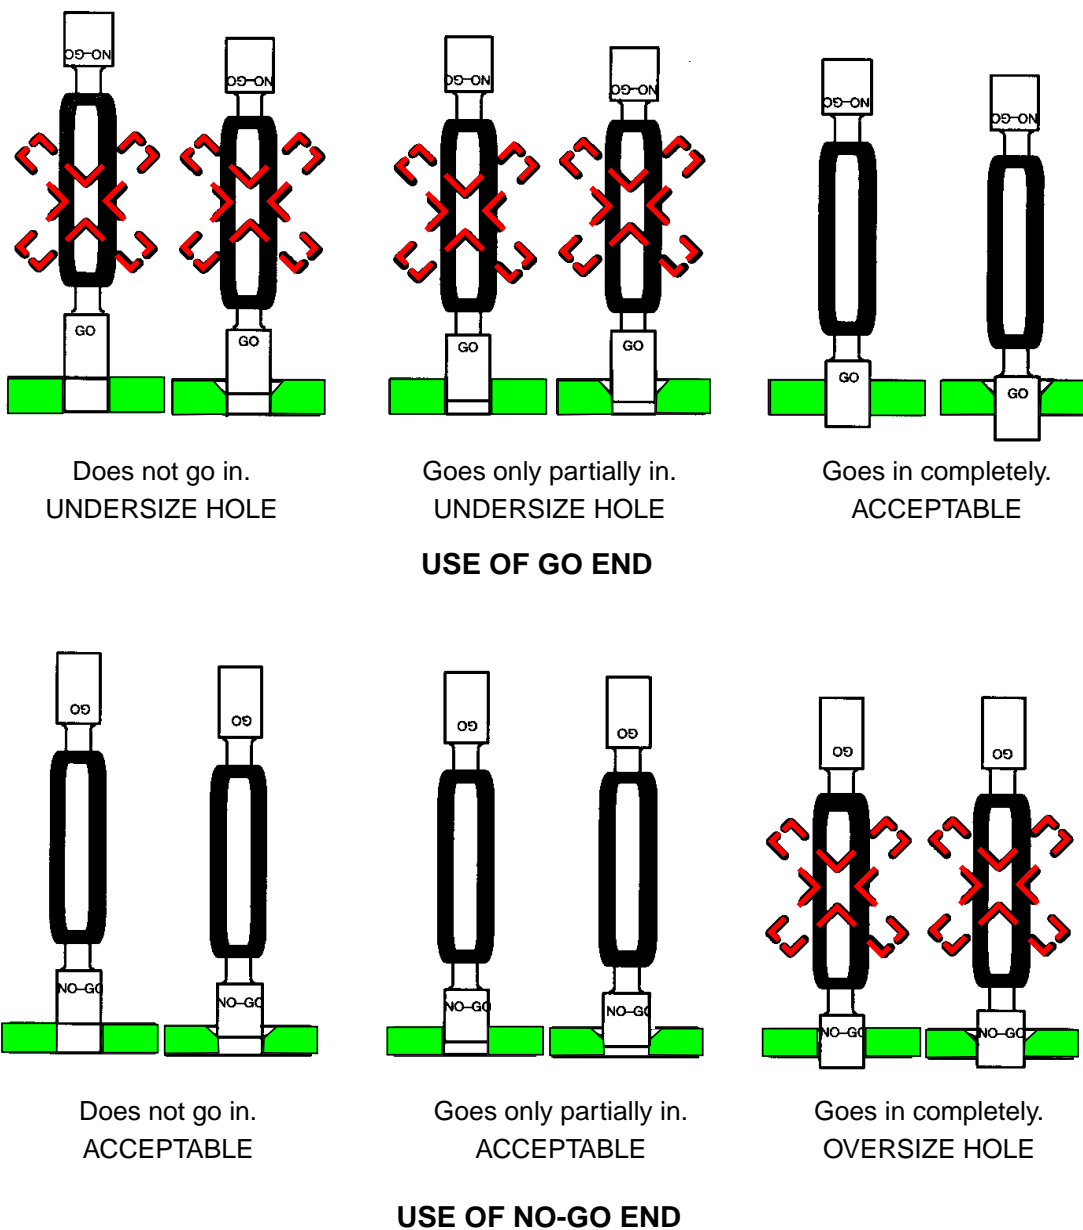

Figure 4 - Use of Go/No-Go Gauges
Step 1. Taking care not to force or rotate the gauge, lightly insert the GO end of the gauge into the fastener hole. If the GO end of the gauge does not go completely into the hole (see Figure 4), the hole is undersize and should be opened to the correct size.
- Step 2. Again taking care not to force or rotate the gauge, lightly insert the NO-GO end of the gauge into the fastener hole. If the NO-GO end of the gauge goes completely into the hole (see Figure 4), the hole is oversize. Refer oversize holes to Bombardier Toronto (de Havilland) MRB or Bombardier Toronto (de Havilland) delegated MRB for disposition.